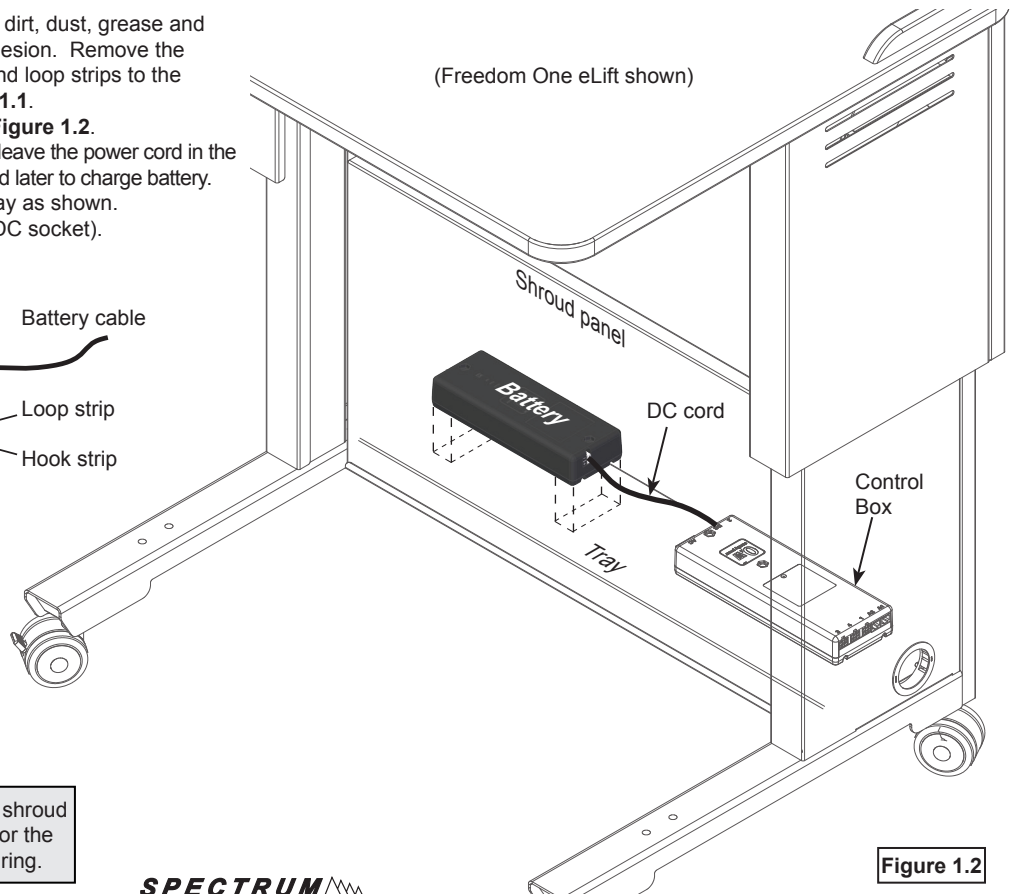

Figure 1.2
2. Plug the battery cable into the battery. **Figure 1.2.**